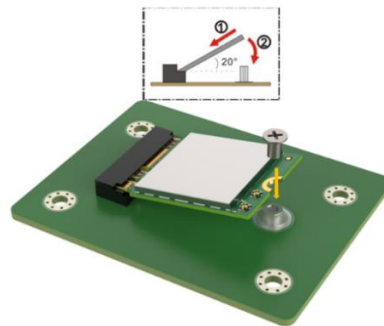

Figure 3-17: Insert the WLAN Module
Step 3: Insert the module into the socket at an angle. Line up the notch on the WLAN module with the notch on the slot. Slide the WLAN module into the slot at an angle of about 20° (Figure 3-17).